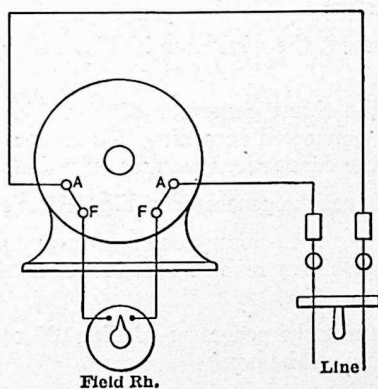

FIG. 161.
**Prob. 35.** Is the shunt generator in Fig. 161 correctly connected? If not, make the necessary changes.
**Prob. 44.** Connect the generator of Fig. 161 to run as a motor. ("No-voltage" release on the box.)